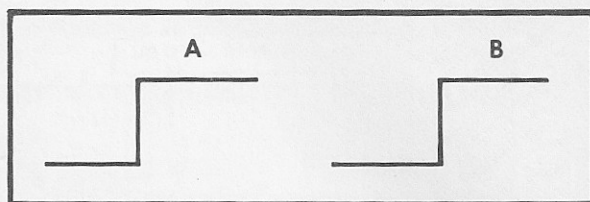

Figure 7
- ( ) Adjust the SYNC LEVEL control until one cycle of a square wave appears. (See Part A of Figure 7.) Then adjust the control until the waveform is symmetrical (where the positive portion of the waveform is equal to the negative portion of the waveform as in Part B of Figure 7.)